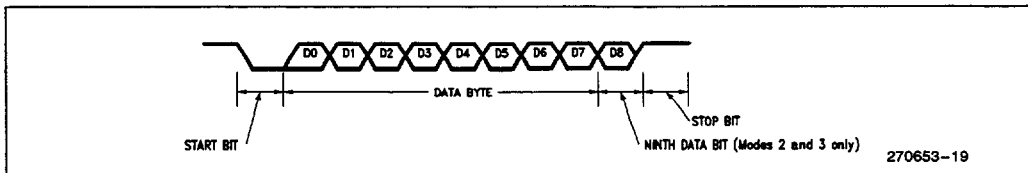

Figure 22. Data Frame: Modes 1, 2 and 3
**Mode 1:** 10 bits are transmitted (through TXD) or received (through RXD): a start bit (0), 8 data bits (LSB first), and a stop bit (1). On receive, the stop bit goes into RB8 in Special Function Register SCON. The baud rate is variable.
**Mode 2:** 11 bits are transmitted (through TXD) or received (through RXD): a start bit (0), 8 data bits (LSB first), a programmable 9th data bit, and a stop bit (1). Refer to Figure 22. On Transmit, the 9th data bit (TB8 in SCON) can be assigned the value of 0 or 1. Or, for example, the parity bit (P in the PSW) could be moved into TB8. On receive, the 9th data bit goes into RB8 in SCON, while the stop bit is ignored. (The validity of the stop bit can be checked with Framing Error Detection.) The baud rate is programmable to either 1/32 or 1/64 the oscillator frequency.